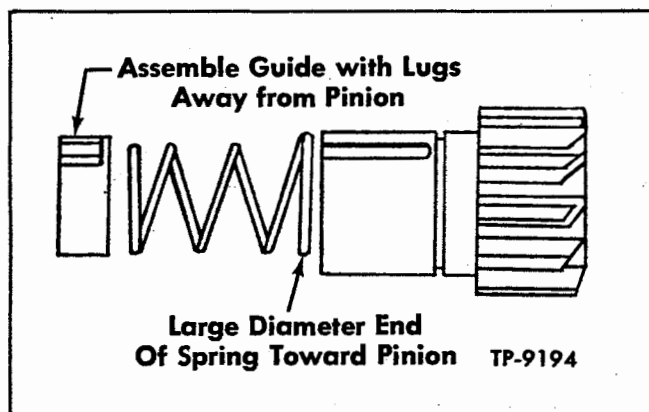

Figure 20—Position of Drive Pinion and Pinion Spring
4. Place plain washer and cupped washer over armature shaft, with cupped side of washer toward armature shaft. Assemble shift sleeve, pinion guide, and spring on armature shaft, with lugs on pinion guide away from end of shaft and with large end of spring toward end of shaft (fig. 20). Do not twist the pinion guide into shaft more than about 1-3/4" from end of shaft. Hold guide in this position and place pinion on shaft over spring, compressing spring into pinion skirt. Align lugs on pinion guide with slots in pinion skirt. Hold pinion guide stationary with thumb and forefinger while pushing pinion onto shaft so lugs on guide enter slots in pinion skirt. Remove thumb and forefinger and twist the assembly back onto the armature shaft and into the shift sleeve. As it reaches the extreme position, a click will be heard which indicates that the pinion guide has dropped into the undercut section of the shaft splines so the assembly is locked in the "at rest" position.
When assembling drive parts, pinion guide lugs must be away from the pinion (fig. 20) or it will not be in the proper position to lock on the shaft.